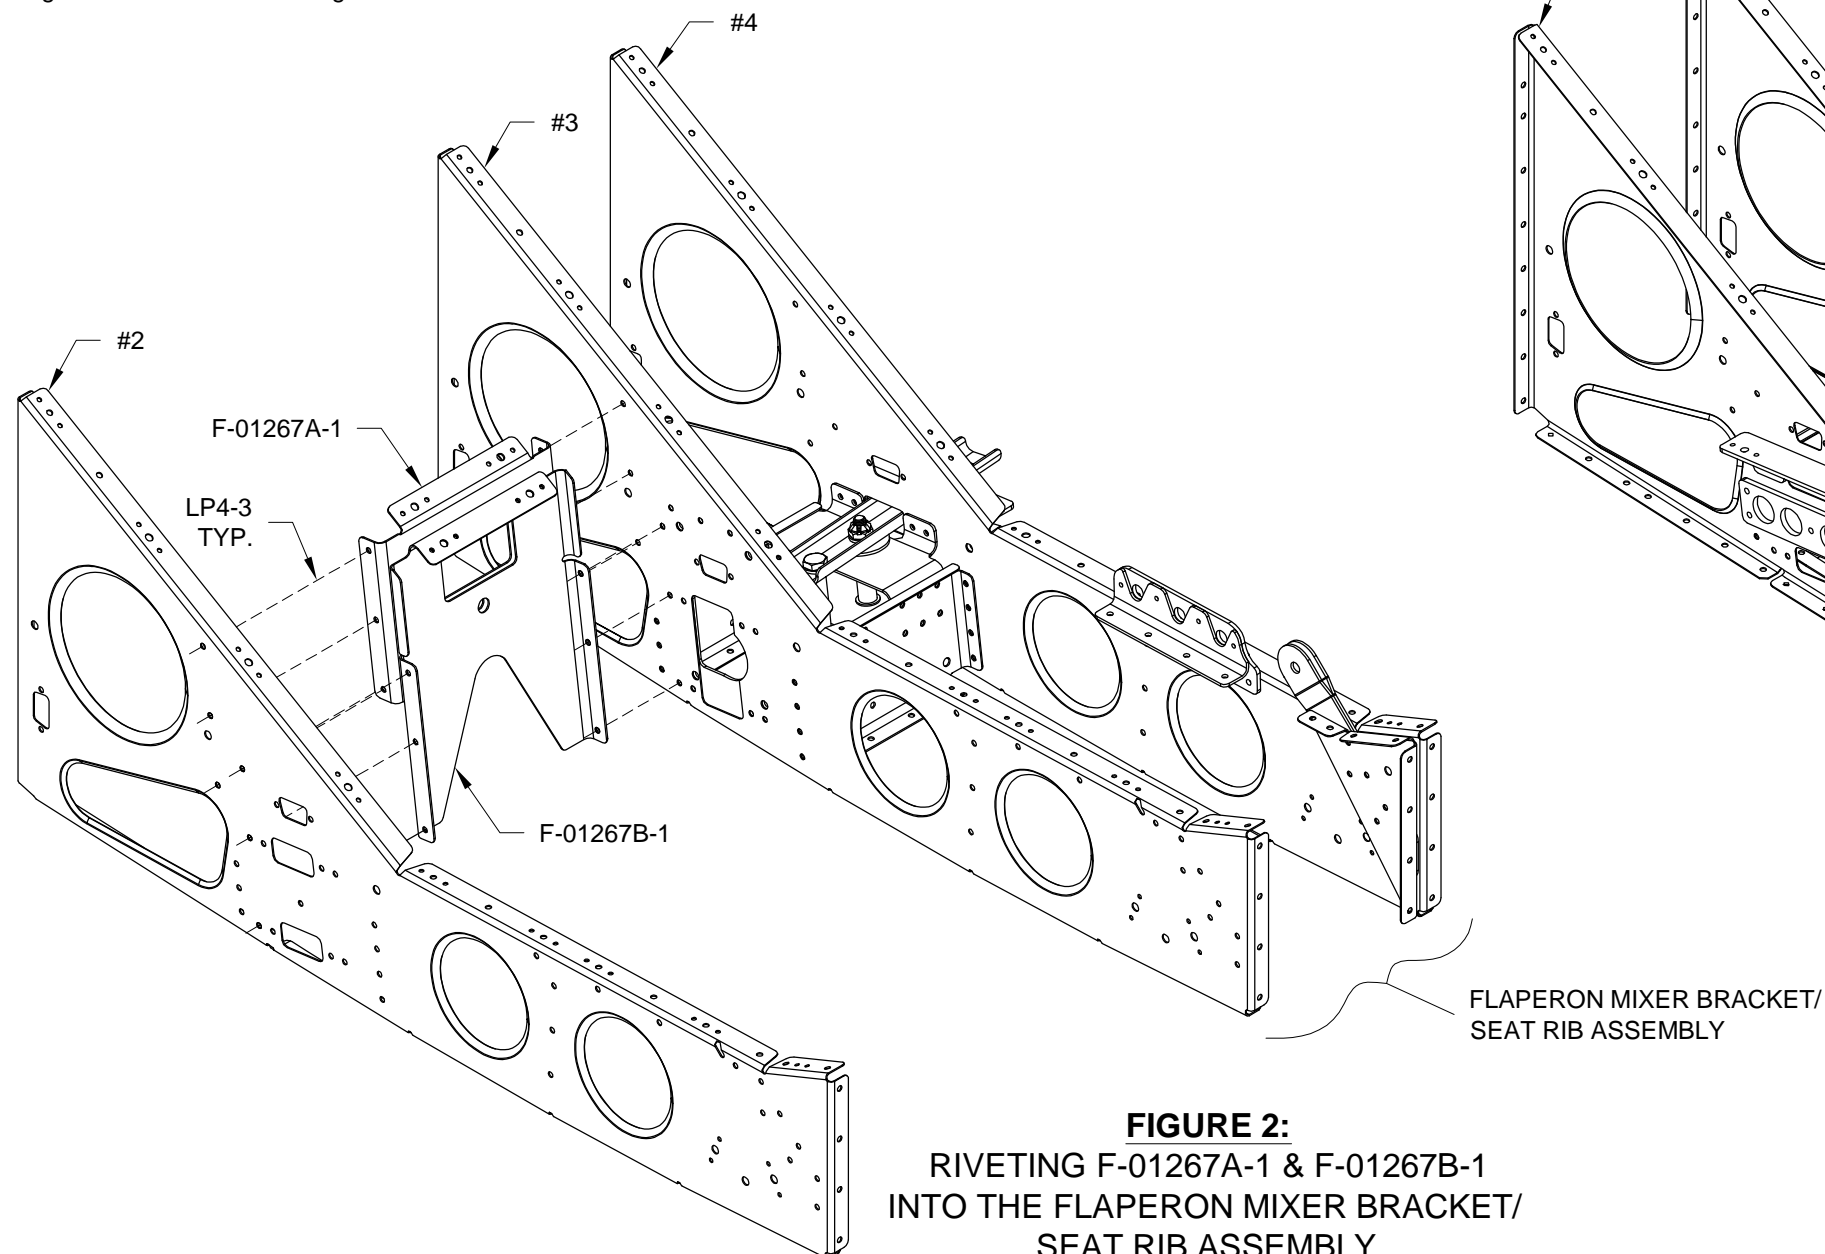

FIGURE 2:
Step 4: Rivet one each of F-01267A-1 & B-1 to the Flaperon Mixer Bracket/ Seat Rib Assembly and to Rib #2 using the rivets called out in Figure 2.